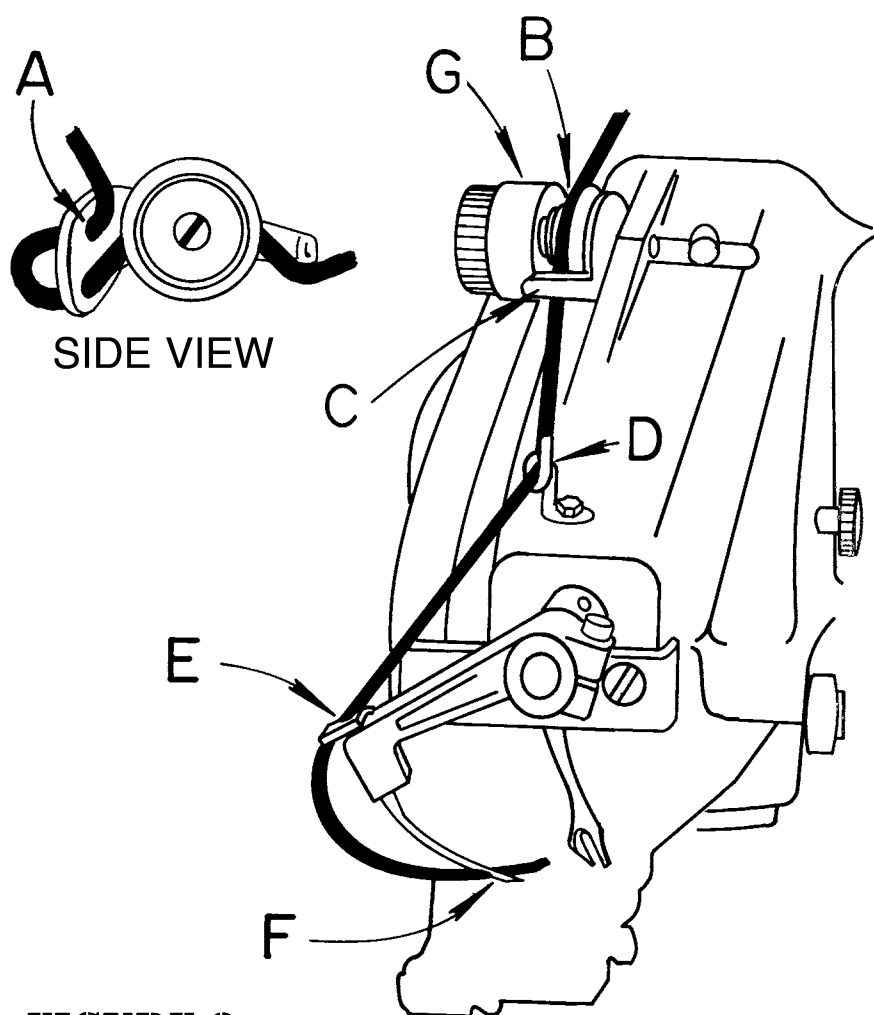

FIGURE 3
3. Referring to the threading chart in Figure 3, it can be seen that the threading procedure is a simple one. The thread is passed from front to back through the rear thread guide hole "A". It then slides between the two tension discs "B" and is brought out to the right of the guide arm "C". Carried forward, the thread is passed through the front thread guide "D" and down through the needle clamp guide hole "E". It then is passed through the eye of the needle "F", entering on the underside of the needle and being removed at the top. The thread should be pulled through to extend past the eye of the needle by a few inches.
1. Insufficient thread tension will result in a loose, poorly holding stitch. If the trial run indicates this to be the case, turn the tension nut (**item "G" in Figure 3**) to the right, thus increasing thread tension.